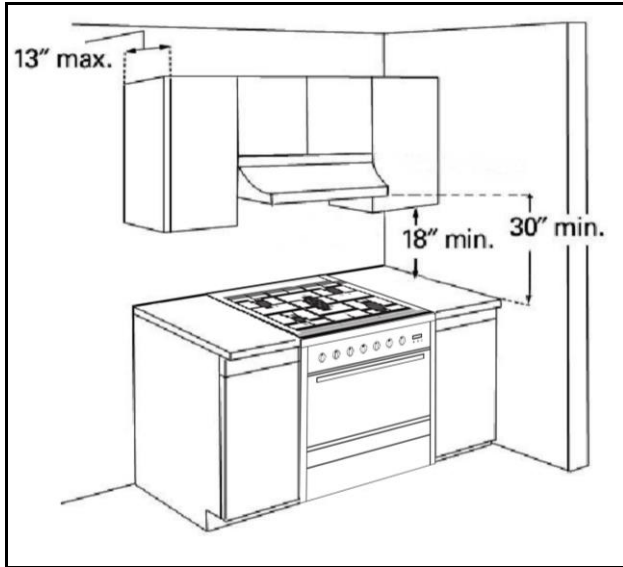

Figure 1
-  To eliminate the risk of burns or fire by reaching over heated surface units, cabinet storage space located above the surface units should be avoided. If cabinet storage is to be provided, the risk can be reduced by installing a range hood or microwave hood combination with minimum 400 CFM that projects horizontally a minimum of 5" (12.7 cm) beyond the bottom of the cabinets. (See Figure 1)
-  If a range hood is installed above the appliance, maintain a 30" minimum clearance between cooking surface and bottom of range hood. The range hood must be connected directly to flues or to the outside. (See Figure 1)
-  Avoid placing cabinetry directly above the appliance when possible. If cabinetry is used above the cooking surface, use cabinets no more than 13" deep. Make sure the wall coverings, countertop and cabinets around the appliance can withstand heat up to 200° F (93°C) generated by the appliance. (See Figure 1)
-  Cabinet opening dimensions that are shown must be used. Given dimensions are minimum clearances. (See Figure 1)
-  Working areas adjacent to the range should have 18" minimum clearance between countertop and cabinet bottom. (See Figure 1)